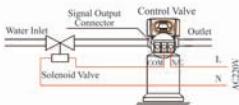
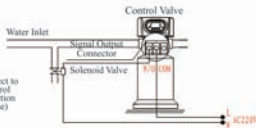

Figure 3-2 Wiring of Solenoid Valve on Inlet
Figure 3-3 Wiring of Pressure Relief Port
**Instruction:** When inlet pressure exceeds 0.6MPa, install a solenoid valve on inlet. Control mode is b-02. Pressure is relieved when valve switching, the wiring refers to Figure 3-2. As Figure 3-3 shows, it also can use the pressure relief connector to work.